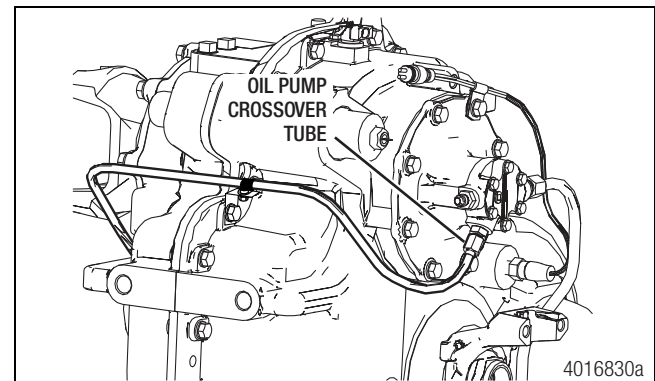

Figure 9.8
4. Connect the oil pump crossover tube from the front case to the pump outlet fitting on the rear case half. Tighten the tube nut to 20 lb-ft (27 Nm). Figure 9.8.